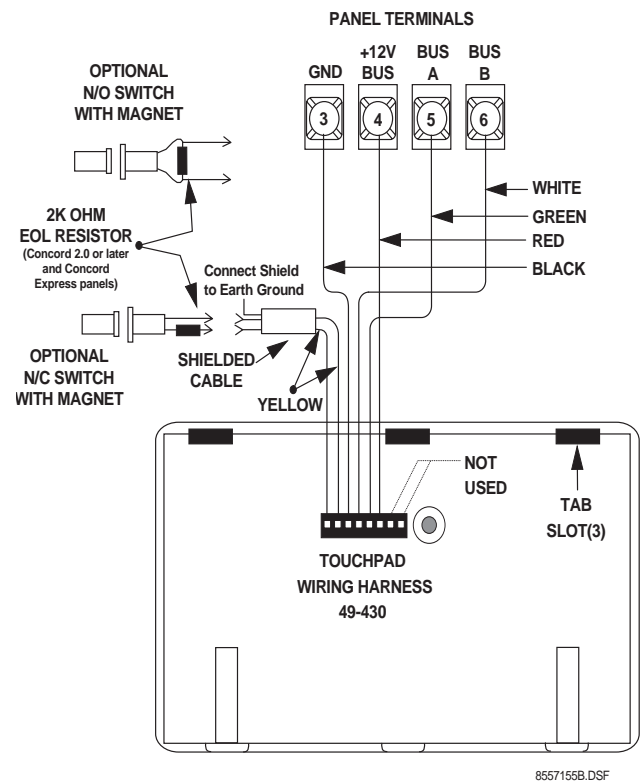

Figure 4. Wiring the Touchpad to Concord and Concord Express Panels
1. Connect the touchpad wiring to the panel terminals as shown in Figure 4. Wire multiple touchpads in parallel.
2. If desired, connect an optional hardwire switch to the yellow touchpad wires as shown in Figure 4.
*Concord Express Systems-* Wire a 2K ohm EOL resistor (49-467) in series with normally closed switches and in parallel with normally open switches (see Figure 4).
*Concord Systems with software version 2.0 or newer-* Wire a 2K ohm EOL resistor (49-467) in series with normally closed switches and in parallel with normally open switches (see Figure 4).